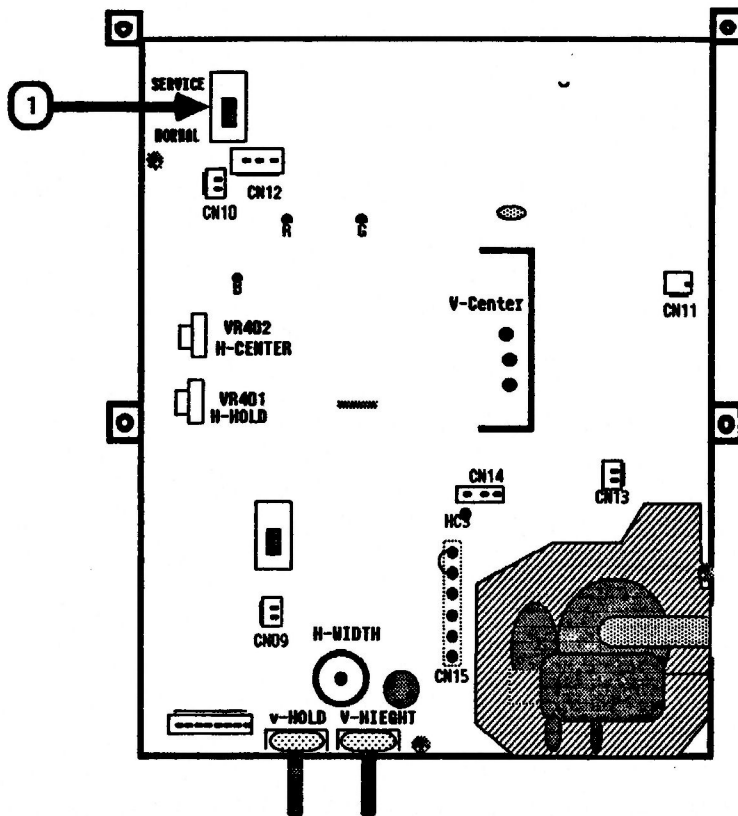

FIGURE 7
5. Use the eraser end of a pencil, or another nonconductive tool, to push Switch (SW) 101 (Figure 7, #1) to the SERVICE position.
10. Turn off the monitor and push switch SW 101 (Figure 7, #1) back to the NORMAL position.